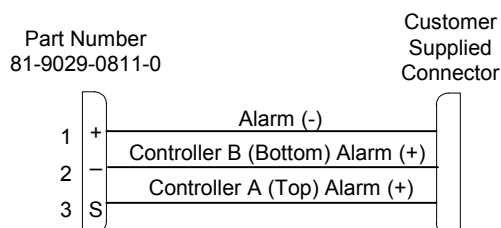

Figure 28. Alarm cable
9. If SNMP management of additional Cheetah Switchers are to be utilized, connect the switchers using 9-pin RS-422 cables to the Aux Frame Ctrl connector as shown in Figure 28 on page 30.